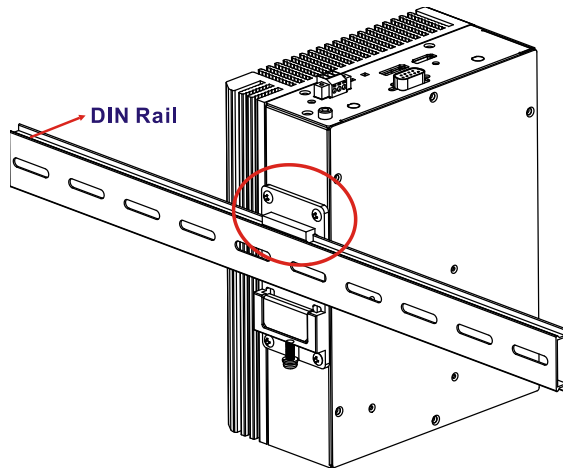

Figure 3-18: Attach the Mounting Bracket to the DIN Rail
Step 3: Attach the upper edge of the mounting bracket to the DIN rail as shown in **Figure 3-18**.